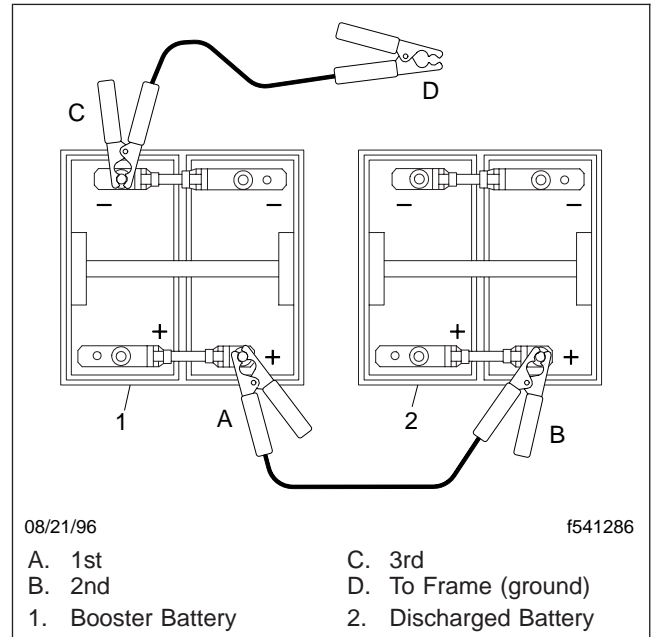

Fig. 9.2, Jumper Connections
2. Connect one end of a jumper cable to the positive terminal of the booster battery, and connect the other end of the cable to the positive terminal of the discharged battery. See **Fig. 9.2**.